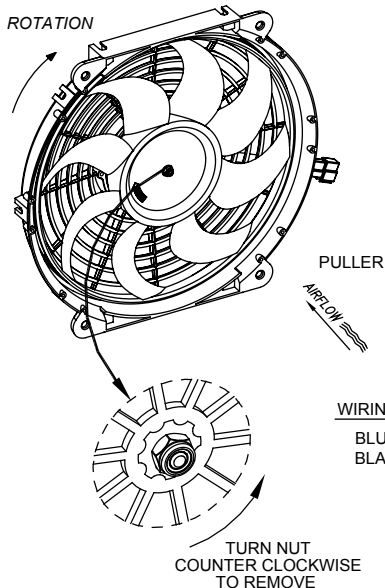

FIGURE 3
1. Disconnect power to the fan. Remove nut as shown. Puller rotation is clockwise as shown in **FIGURE 3**.